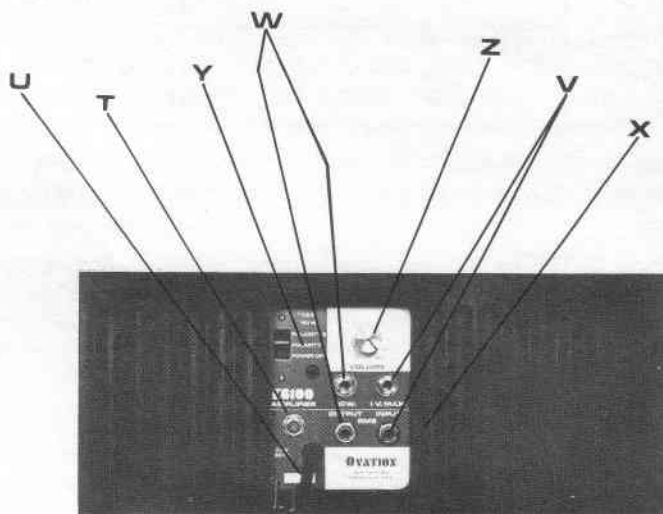

Figure 4. Speaker Column, Model K6185, and Quad, Model K6117, Controls and Indicators
SPEAKER COLUMN, MODEL K6185, AND QUAD, MODEL K6117 (See Figure 4.)
- AB. **OUTPUT JACK (RED)** — One red OUTPUT JACK is provided on the rear of the cabinet. The jack is used to connect the horn enclosure to the red OUTPUT jack of either a powered or unpowered enclosure as shown in figure 4. Use a standard 1/4-inch phone plug with heavy, unshielded cord to make connections.